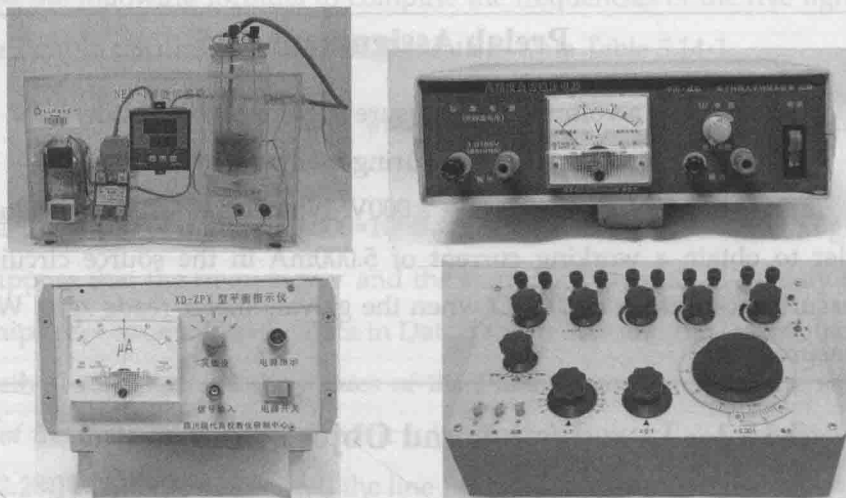

Fig. 3.15-1 Experimental apparatus
- (1) Understand the principle of a box potentiometer.
- (2) Measure a thermocouple's emf.
- A box potentiometer (Fig. 3.15-1)